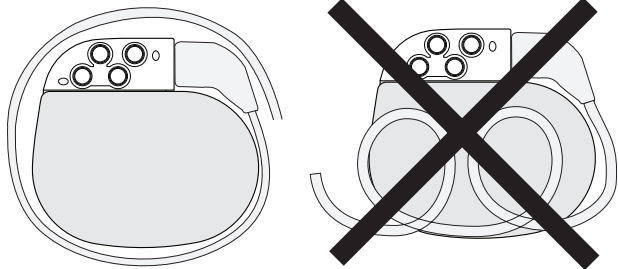

Figure 3. Wrap excess extension around the perimeter of the neurostimulator.
- Do not coil excess extension in front of the neurostimulator. Wrap excess extension around the perimeter (Figure 3) of the neurostimulator to minimize subcutaneous pocket depth, help minimize potential damage during neurostimulator replacement surgery, help minimize potential kinking of the extension, and minimize interference with telemetry. Excess extension should not exceed two wraps around the perimeter of the neurostimulator. Extension lengths requiring more than two wraps can interfere with telemetry.